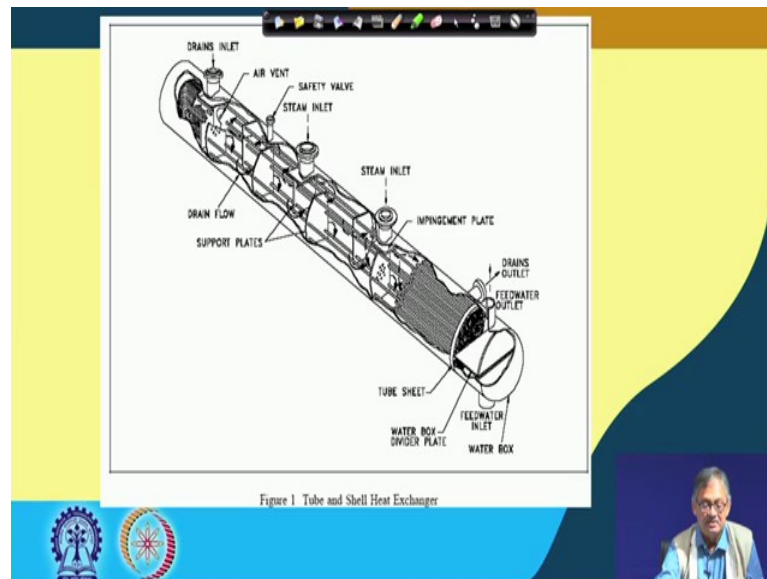

Figure 1 Tube and Shell Heat Exchanger
- ❖ The most basic and the most common type of heat exchanger construction is the tube and shell, as shown in Figure 1. This type of heat exchanger consists of a set of tubes in container called a shell.